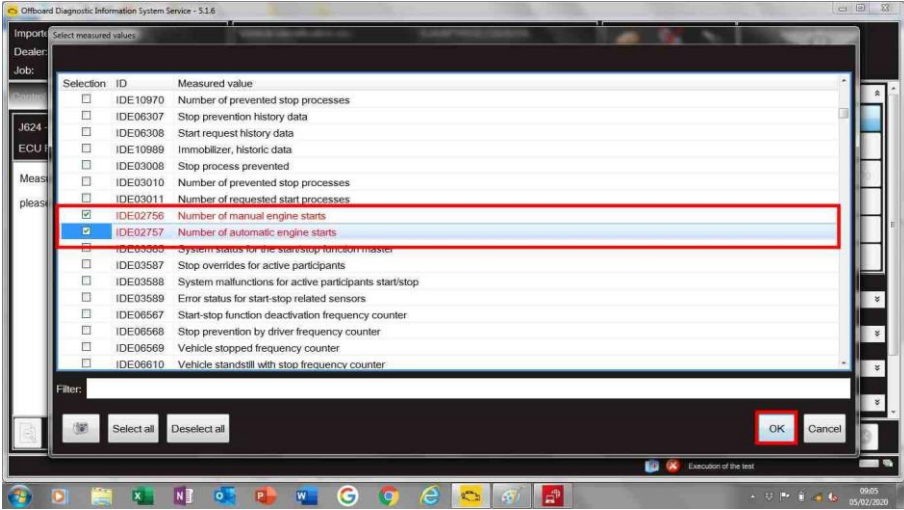

Figure 4
- Select "IDE02756" and "IDE02757" and then "OK" – Figure 4.